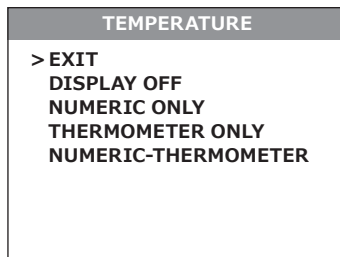

FIGURE 2-10. TEMPERATURE MENU
Use the video cable plug (A, Figure 2-10) to connect an external video recorder/monitor/TV to the Cobra. Connect the video cable plug (C) to the Cobra S620 universal connector.
The TEMPERATURE menu (Figure 2-10) allows the user to select varying temperature detection graphics in the display field of view.